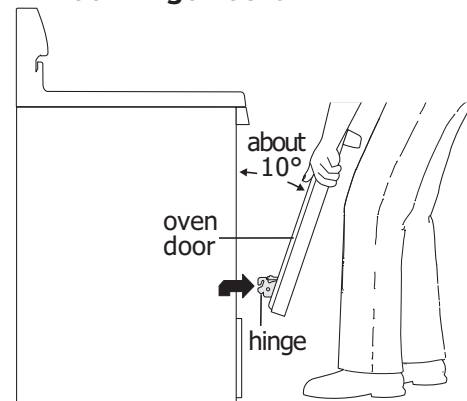

Figure 28: Holding door for removal
3. Firmly grasp both sides of oven door along the door sides. Do not use the oven door handle (See Figure 28).
4. Close the door to approximately 10 degrees from the door frame (See Figure 28).
1. Firmly grasp both sides of oven door along the door sides. Do not use the oven door handle (See Figure 28).